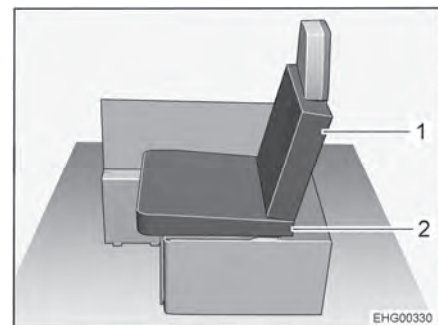

Fig. 24 After conversion
- Place one of the seat cushions of the left-hand divan as seat cushion (Fig. 24,2) on the bench seat. While doing so, pay attention to the wedged form of the seat cushion: the seat cushion must be slightly inclined toward the backrest (see Fig. 24).
- Attach one of the included additional cushions as back cushion (Fig. 24,1) to the backrest of the attachable seat.